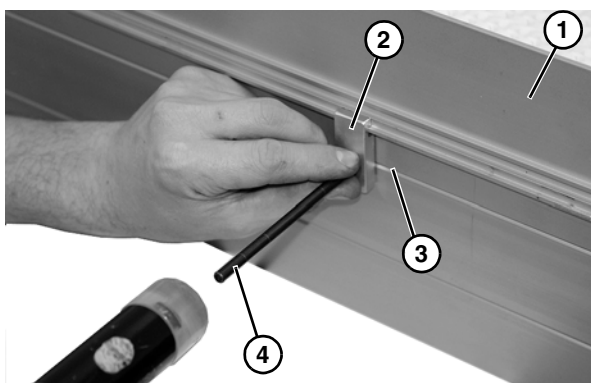

Figure 19
1. Locate guide (**Figure 19, item 1**) and retaining clip (**Figure 19, item 2**) and hold to side rail. Hole should line up with notch (**Figure 19, item 3**) in side rail. Mark the hole locations with a center punch (**Figure 19, item 4**) and remove the bracket.